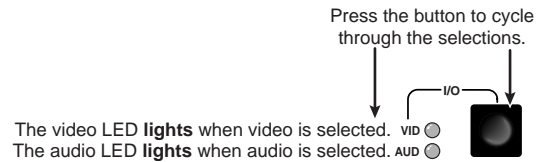

Figure 3-4 — Select video and audio
1. **Audio/video switchers only** — Select video and audio for the tie (figure 3-4).